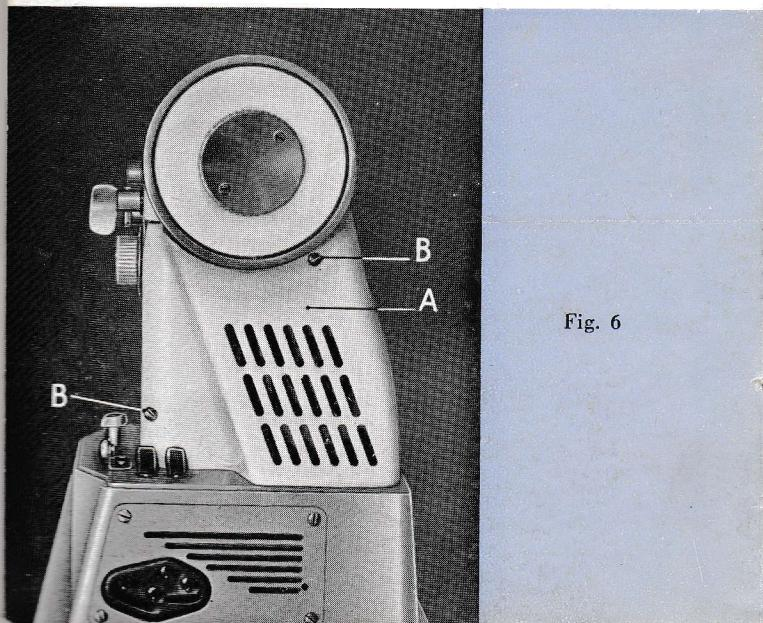
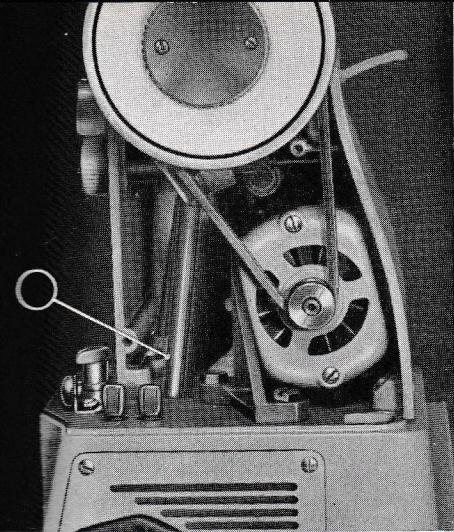

Fig. 6
Fig. 7
- Remove the cover A by removing the two screws B (Fig. 6) and apply a few drops of oil in the oil hole indicated in Fig. 7.